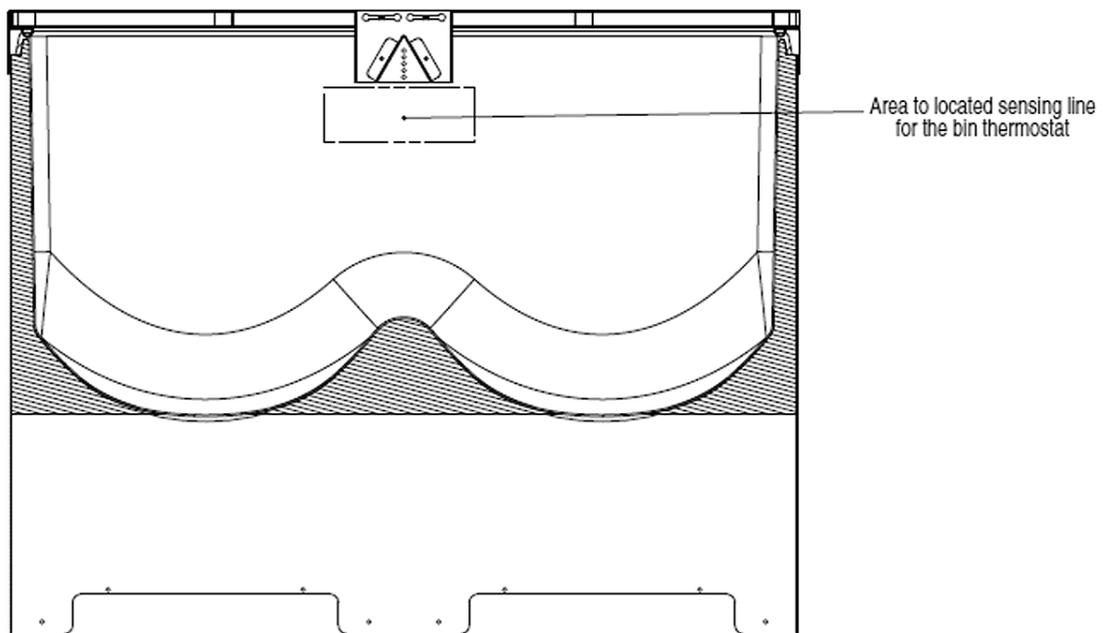

Figure 3.
9. Install icemaker bin thermostat just underneath ice deflector. See Figure 3 for location area.